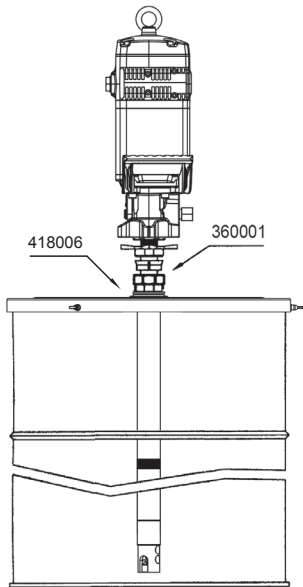

Fig. 3
- Mounting with cover 418006 for 408 psi (185 kg) drum and 418016 for 110 lb (50 kg) drum and bung adaptor 360001. Fasten the cover onto the drum and screw the nut of the bung adaptor securely into the 2" bung opening of the cover. Insert the pump through the nut and adjust it with the star nut to the desired height (see figure 3).